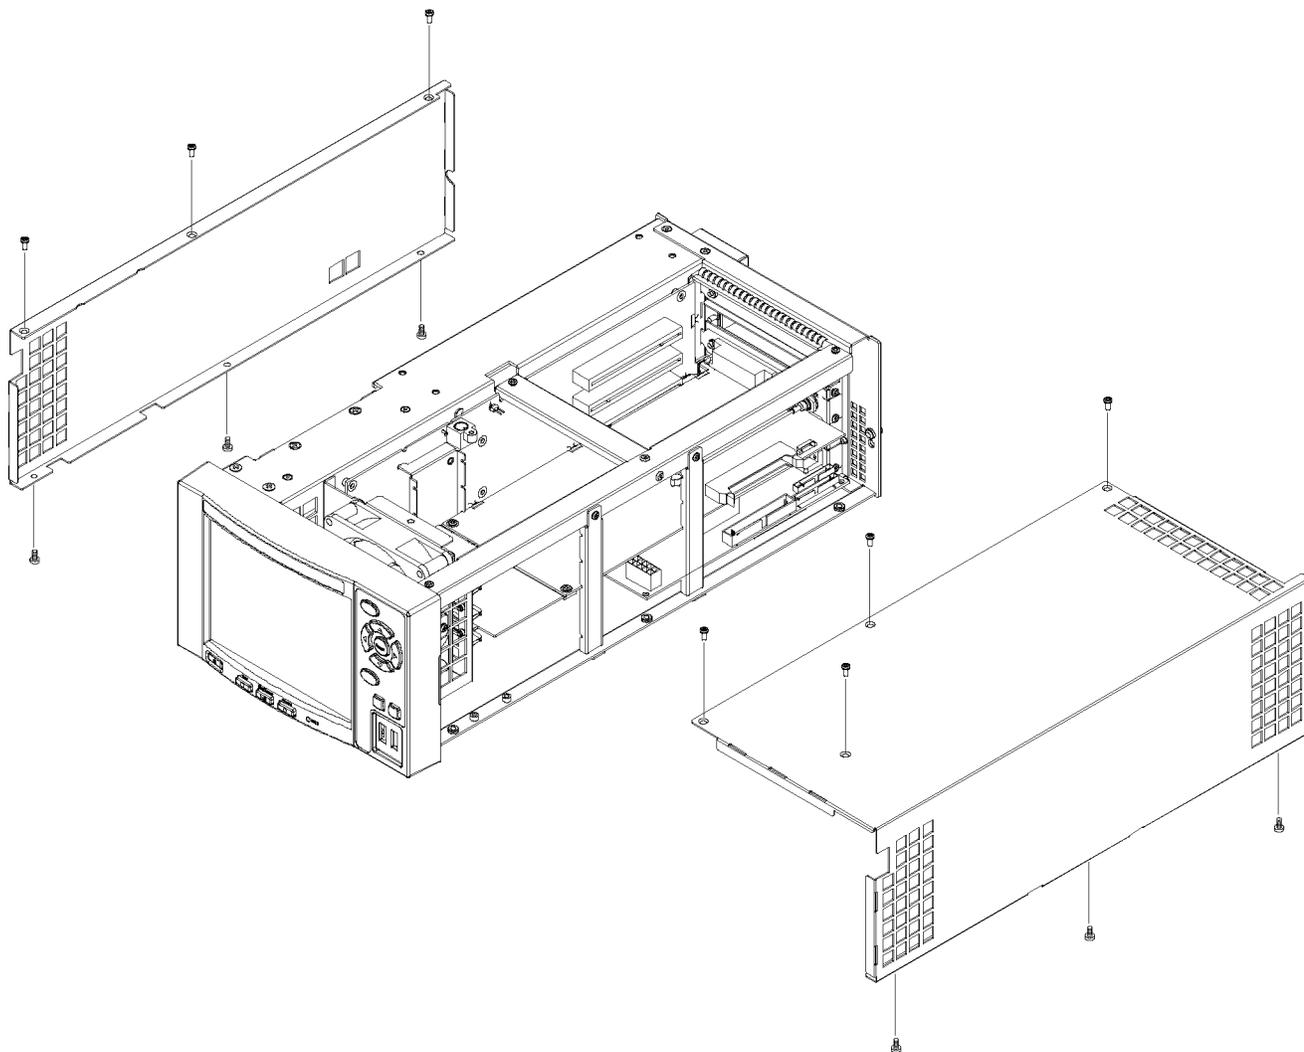

Figure 3-6: Right-side and left-side covers removal
3. Use a screwdriver with a T10 TORX tip to remove the seven screws securing the right-side cover to the top and bottom of the chassis. (See Figure 3-6.)
3. Use a screwdriver with a T10 TORX tip to remove the six screws securing the left-side cover to the top and bottom of the chassis. (See Figure 3-6.)